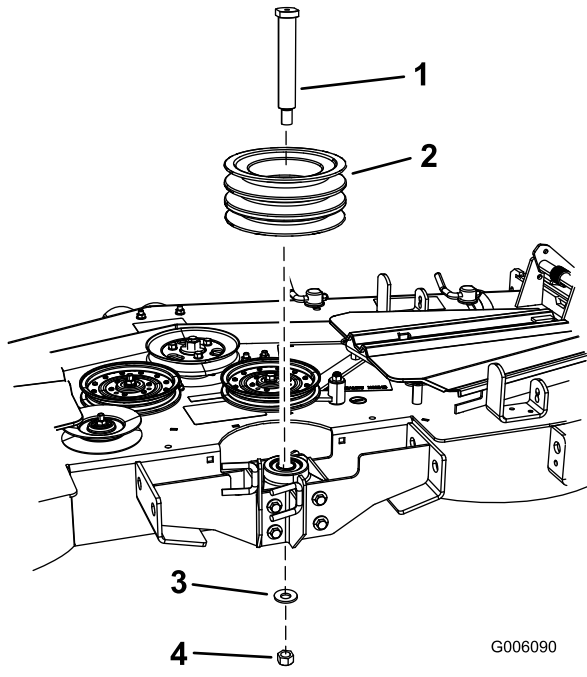

Figure 1
3. Remove the three stacked pulleys from the bearing housing (Figure 1).